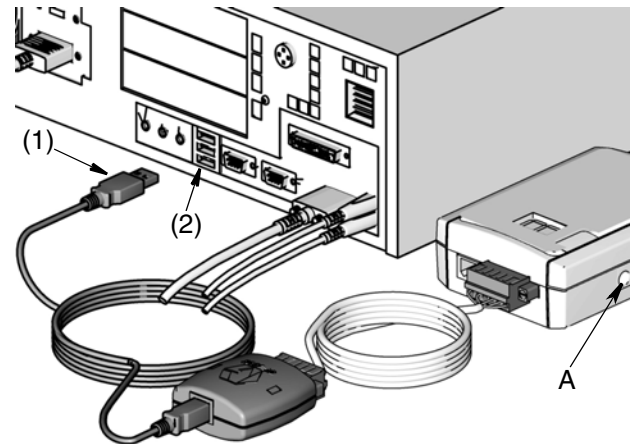

FIG. 10
- For longer distances up to 4000 feet (1219 meters) between the Transceiver and Matrix PC an **RS422** adapter is required. See FIG. 10, page 7.